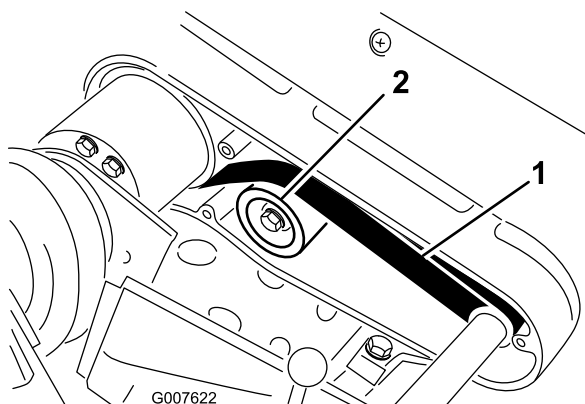

Figure 38
2. Check the tension by pressing the belt at mid span of the pulleys (Figure 38) with 22–26 N (5 to 6 lb) of force. The belt should deflect 6 mm (1/4 inch).
- A. Loosen the idler pulley mounting nut and pivot the idler pulley clockwise against the backside of the belt until the desired belt tension is attained (Figure 38).